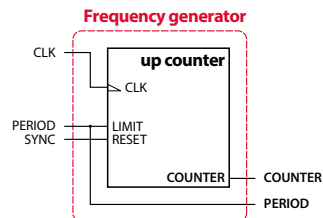

Fig. 29. Block diagram of a frequency generator.
- » 4 **frequency generators** (freq gen), which act as common *frequency* sources for other blocks that can be mapped to them. The latter can be either **modulators** or **interrupt clock generators**. The block diagram of each frequency generator is shown in Fig. 29 :